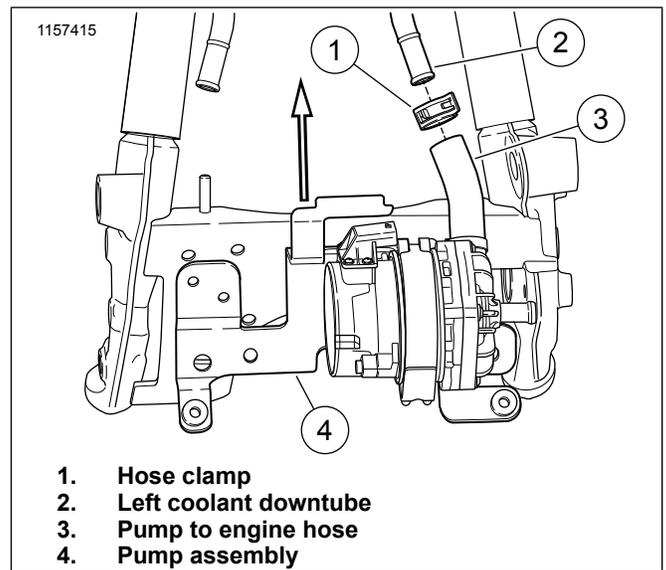

Figure 8. Pump Assembly to Left Coolant Down Tube
12. See Figure 8. Install **new** pump assembly on left downtube (2).
a. Position **new** hose clamp (1) on left coolant downtube.
b. Lifting the pump assembly (4) into place. Guide pump to engine hose into place on left downtube.